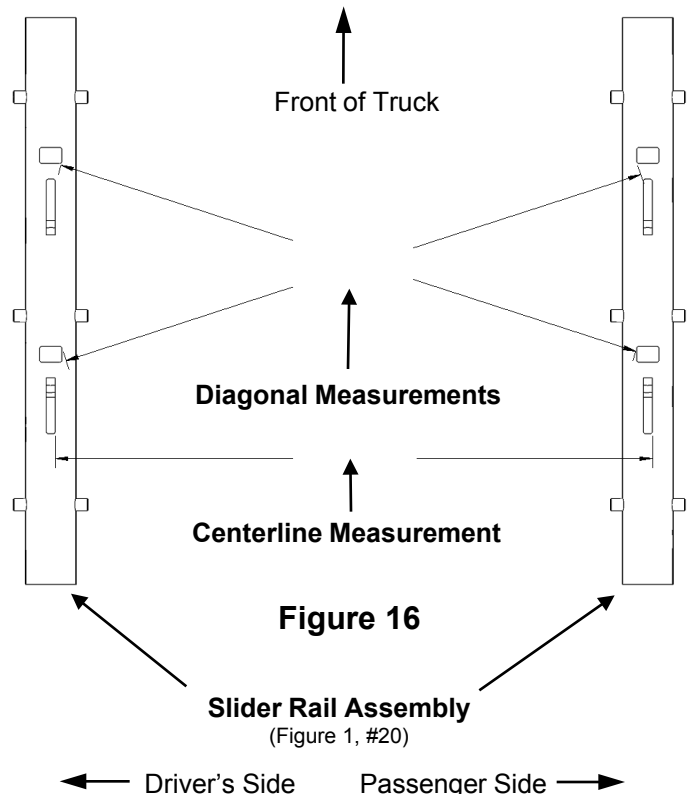

Figure 16
9. Measure the distance between the 2 slider rail assemblies (Figure 1, #20) that are in the truck bed at the "Center line Dimension" in Figure 16. Adjust the slider rail assemblies (Figure 1, #20) so that they measure the same distance apart as the smaller dimension measured in Step 8. Measure diagonally across the slider rail assemblies (Figure 1, #20) at the locations in Figure 16. These 2 diagonal measurements must be equal to ensure that the rails are squarely lined up in the truck bed.